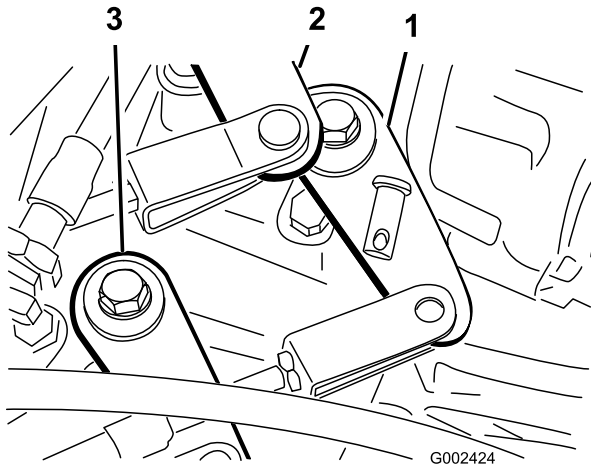

Figure 47
2. Remove the clevis pins securing the shift cables to the transaxle shift arms (Figure 47).
1. Remove the clevis pin securing the High—Low cable to the transaxle (Figure 47).